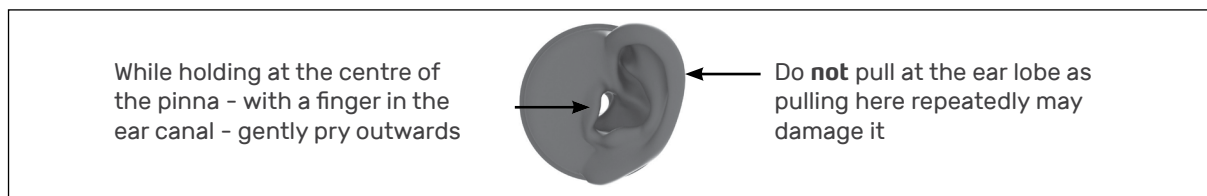

Fig. 8. Showing where to pull when removing the ear simulator+ anthropometric pinna from 45CA.
2. Gently pull out the assembly. See also Fig. 8 on page 23.